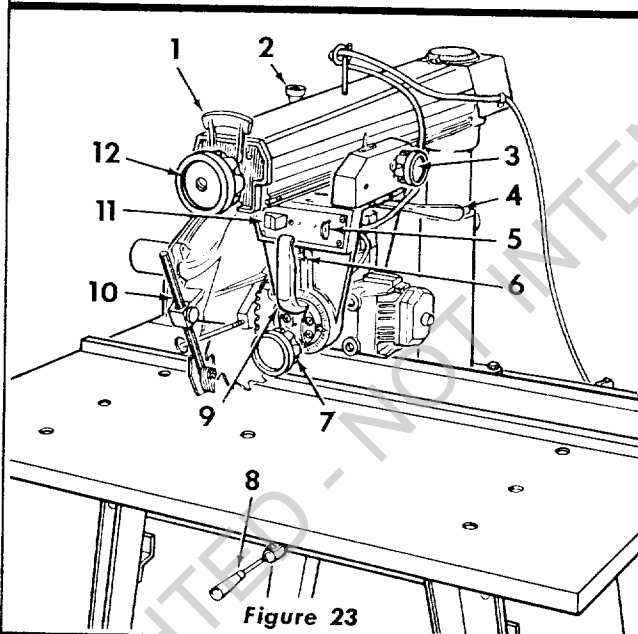

Figure 23
This is accomplished by the elevation crank (8, figure 23). **One complete turn of this handle will raise or lower the radial arm 1/8-inch.**
This is accomplished by the carriage lock knob (3, figure 23). Turn the knob clockwise to lock; counterclockwise to unlock.
These movements are controlled by the arm latch lever (1, figure 23) and the arm latch handle (12). The radial arm can be rotated 360° and locked in any position. The arm is unlocked from any position by a slight counterclockwise rotation of the arm latch handle (12) and is locked in any position by rotating the arm latch handle clockwise until tight. The radial arm has positive stops at 0° and 45° left and right, and is released from these index positions by unlocking the arm latch handle (12) and pulling the arm latch lever (1).
1. If the radial arm is already indexed, rotate the arm latch handle (12, figure 23) **1/4 turn counterclockwise from the locked position**, pull out the arm latch lever (1) and move the radial arm off the index position. Release the arm latch lever (1).
3. Lock the radial arm by rotating the arm latch handle (12, figure 23) clockwise until tight.
These movements are controlled by the latch pin handle (6, figure 23) and bevel lock knob (7). The bevel scale indicates the angular position of the motor with respect to horizontal from 0° to 90° in either vertical position. The latch pin handle (6) automatically indexes the motor to 0°, 45° and 90° up and down. Lift the latch pin handle to release. At any other position, the latch pin handle is not engaged. The bevel lock knob (7) locks the motor to the yoke when the motor is in any position. Rotate it clockwise to lock; counterclockwise to unlock.